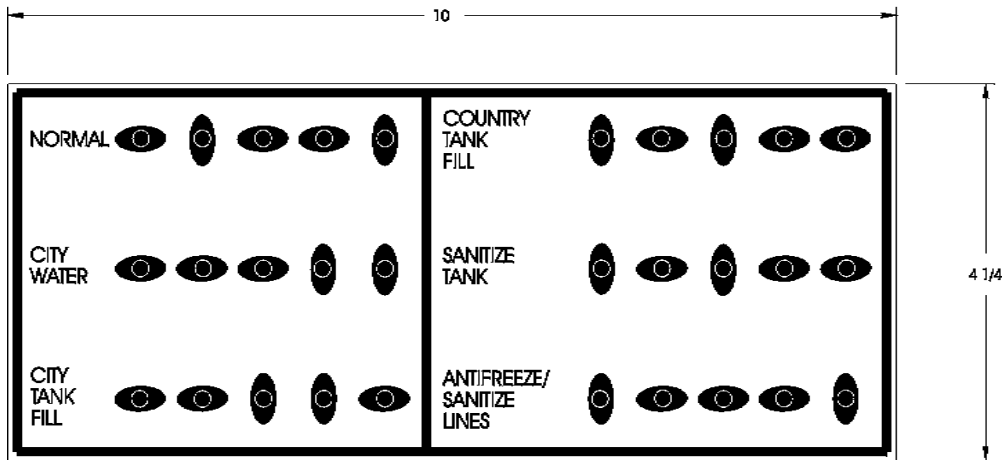

Fig. 4-6
Definition of the Utility Center Label Terms (Fig. 4-6)
4. Position the "Control Valves" on the "Utility Panel" to the "Sanitize Tank" configuration. (Fig. 4-6)
6. After pumping all the chlorine solution into the tank, position the “Control Valves” to the “City Fill” configuration. (Fig. 4-6)